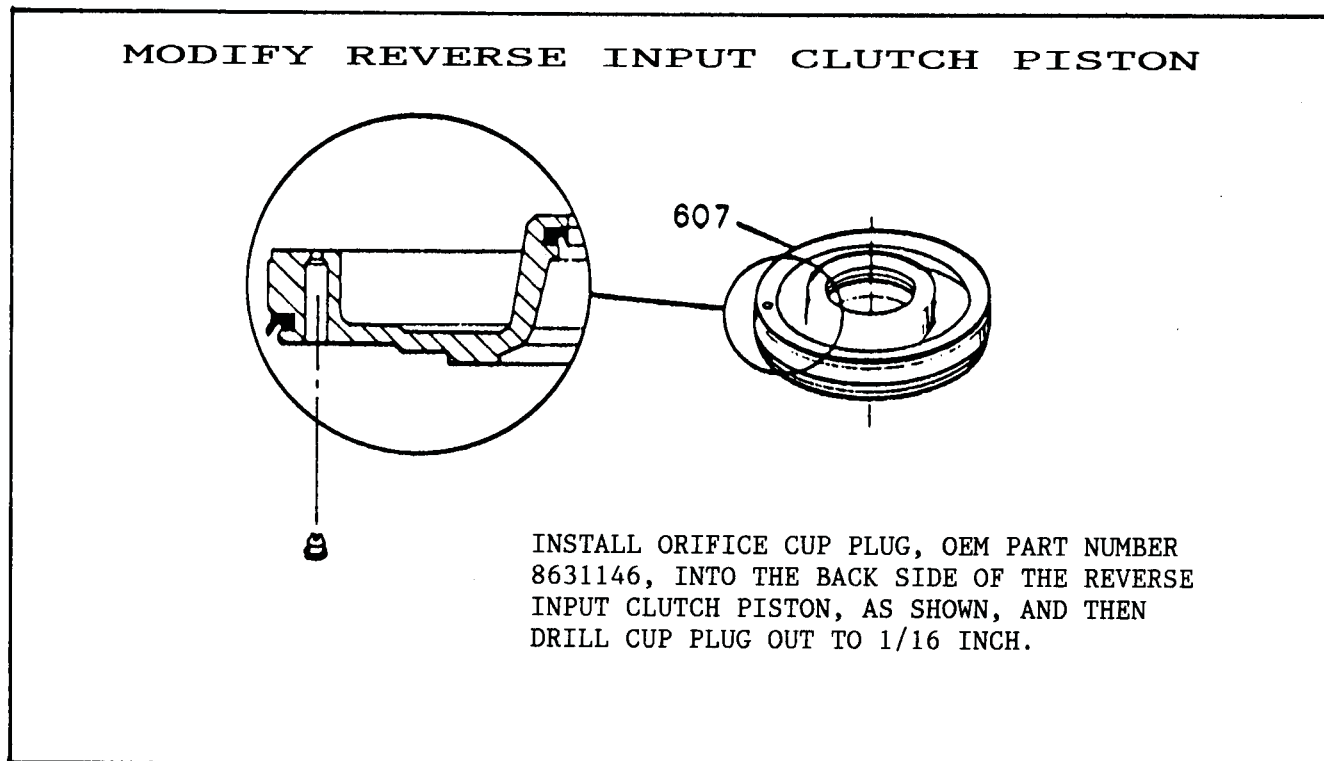

Figure 118
4. Modify the reverse input clutch piston as shown in Figure 118, by installing orifice cup plug, OEM No. 8631146, in the back side of piston and then drill cup plug out to 1/16 inch.